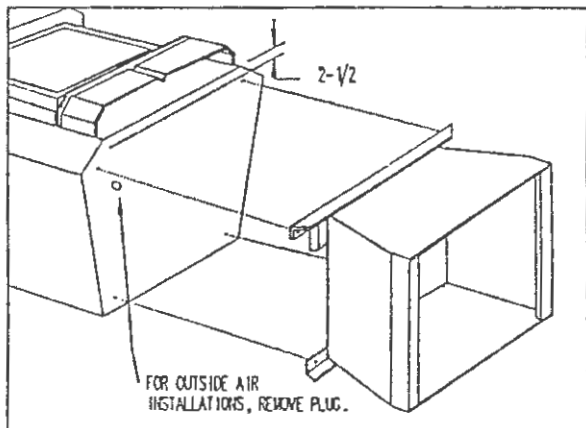

FIGURE 3
8. Open the corresponding freestanding kit and obtain the stand. Place the stand against the bottom of the heater (angle side to heater) at the marked line. Center the stand left and right and mark screw locations on bottom through outer holes of stand mounting angles. Set stand aside and drill four 7/32" holes in heater bottom. (See figure 3)